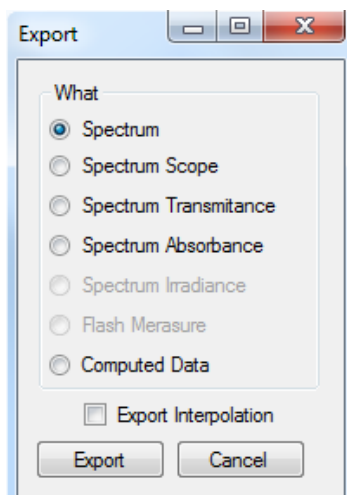

Fig. 33 Export table.
- Spectrum** (Fig. 33) - all raw scope data for entire range of measured wavelengths are exported including data for the dark scan.